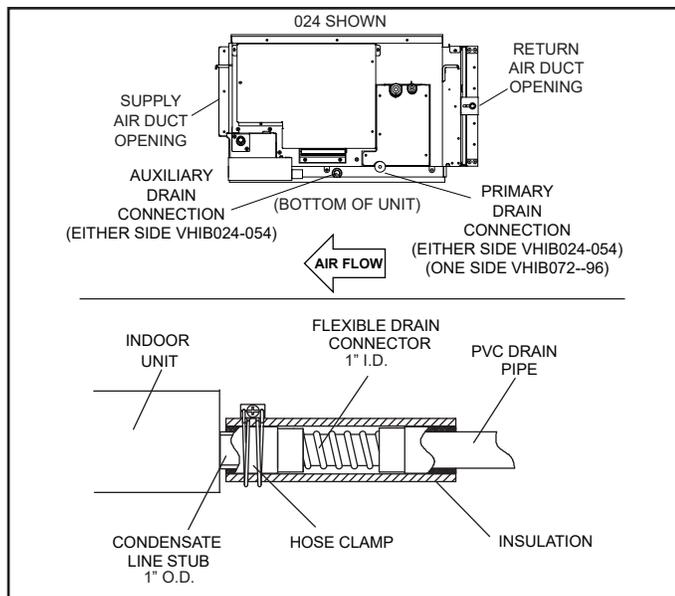

Figure 9. Condensate Drain Connection
- Use the provided hose clamp to secure the provided flexible condensate drain connector and insulating sleeve to the drain line stub on the side of the indoor unit. See Figure 9.